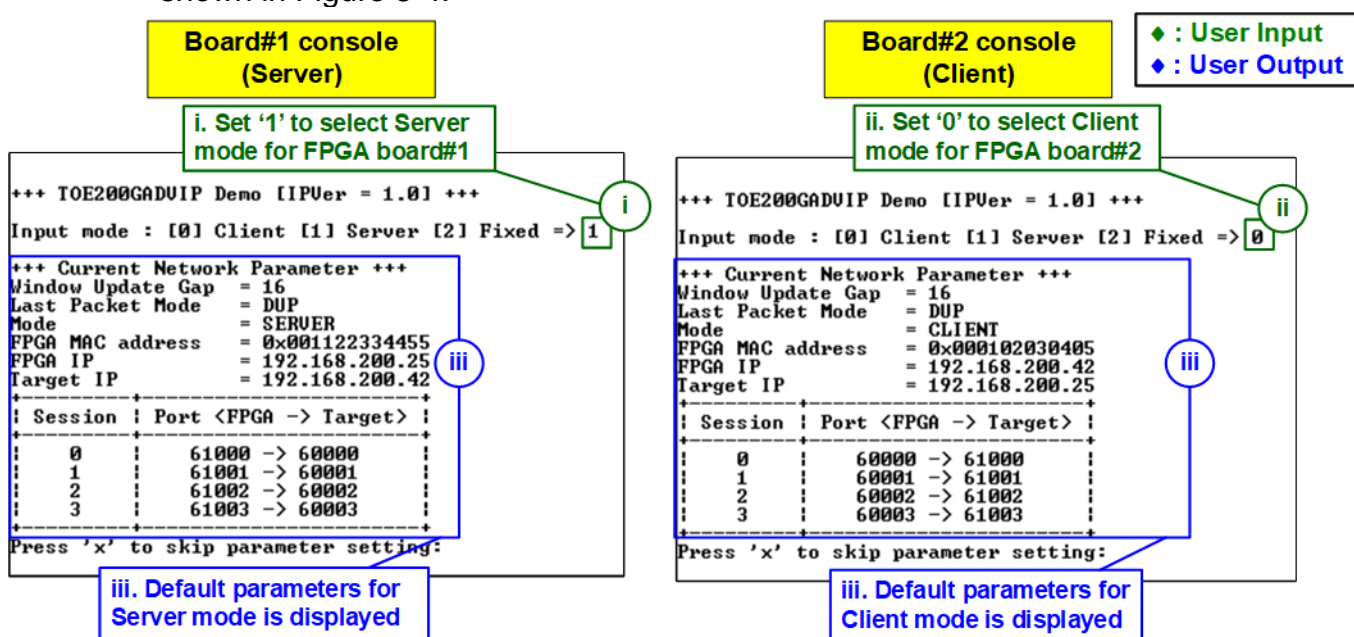

Figure 3-4 Input mode on each FPGA console
- iii) The default parameters for the selected mode will be displayed on the console, as shown in Figure 3-4.